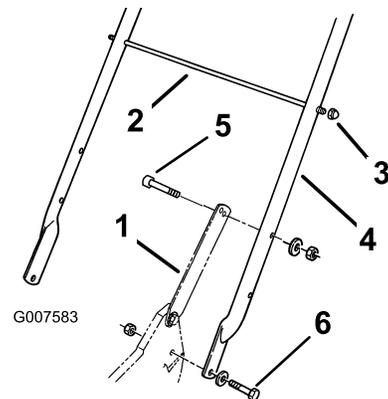

Figure 3
1. Mount the handle to the outside of the lawn mower housing (using the bottom hole) with 2 bolts (5/16 x 1-1/4 inches), washers, and thin locknuts (5/16 inch) (Figure 3).
2. Secure the handle latches to the handle with 2 bolts (5/16 x 1-1/2 inches), washers, and locknuts (5/16 inch) (Figure 3).
- Slide the bag support rod through the second from the top mounting holes in the handle and secure each end with a cap locknut (Figure 3).